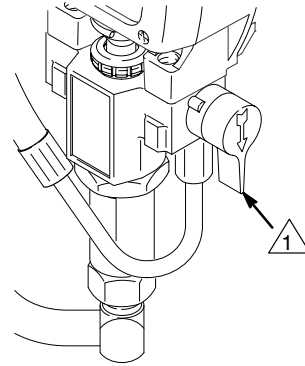

Fig. 11
5. Open the pressure drain valve. See Fig. 11.